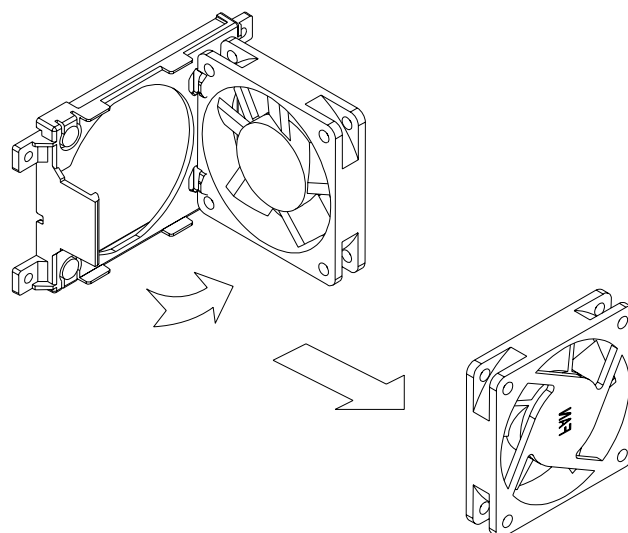

Figure 3.4 Replacing the fan behind the SAS/SATA HDD backplane
3. Push the hook on the left side of the fan to take out the fan (see Figure 3.4).